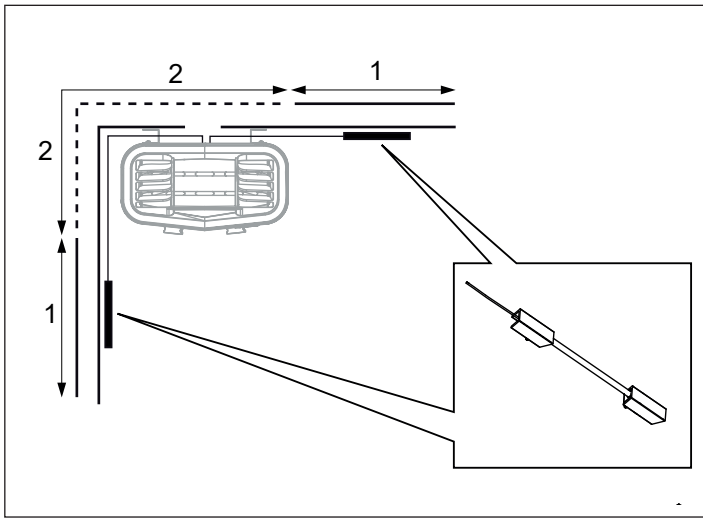
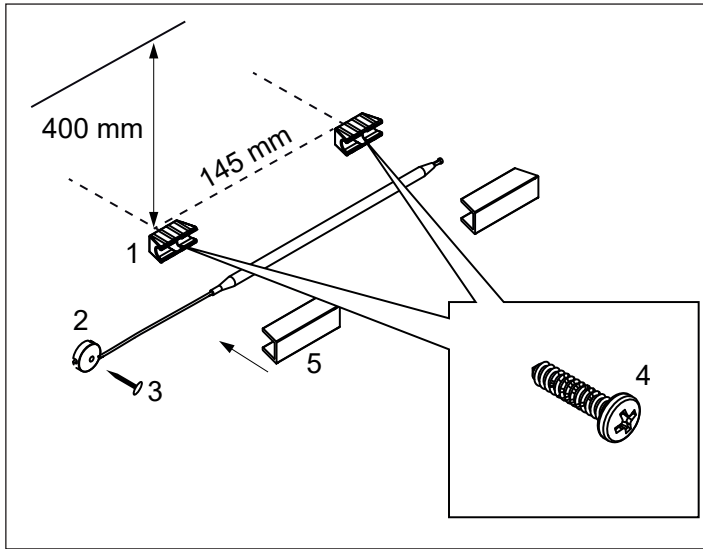
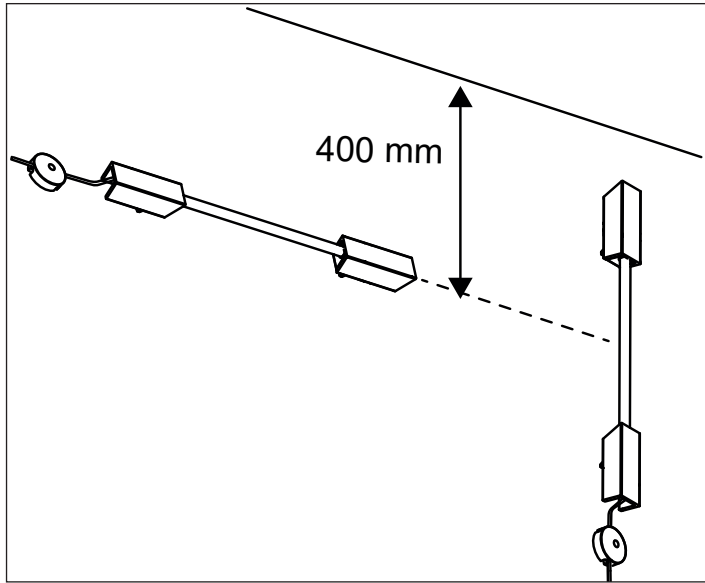
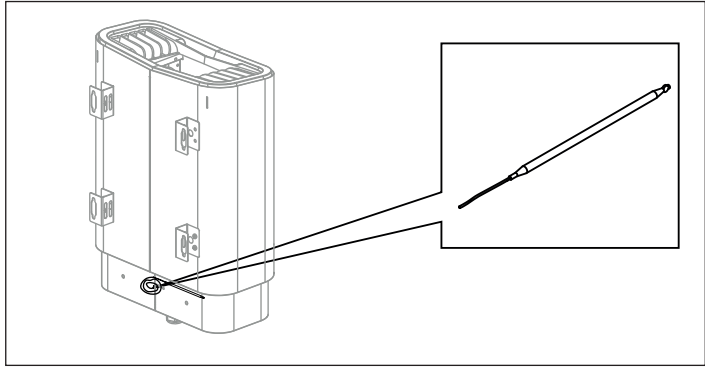

Figure 11: Positioning of temperature sensor
Figure 12: Installing the temperature sensor
Figure 13: Temperature sensor placement
Figure 14: Finding the temperature sensor
- 7. For positioning of temperature sensor holder on wall (see Figure 11). Choose position 1 if possible. Position 2 will reduce the sauna temperature. Install the temperature sensor holders (see (1) in Figure 12) 400 mm below the ceiling and 145 mm between using the two supplied screws (4).
Insert the temperature sensor (located on the back of the heater, see Figure 14) and secure the capillary tube with the clips (2) and the brad nail (3) (see Figure 12). The sensor could either be installed vertical or horizontal, (see figure 13)
Contact TylöHelo Customer Service before connecting to voltages or numbers of phases that are not listed in the wiring diagram (see Figure 14).